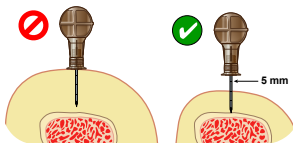

FIGURE 20
- b. Ensure at least 5 mm of catheter is visible. (See Figure 20)